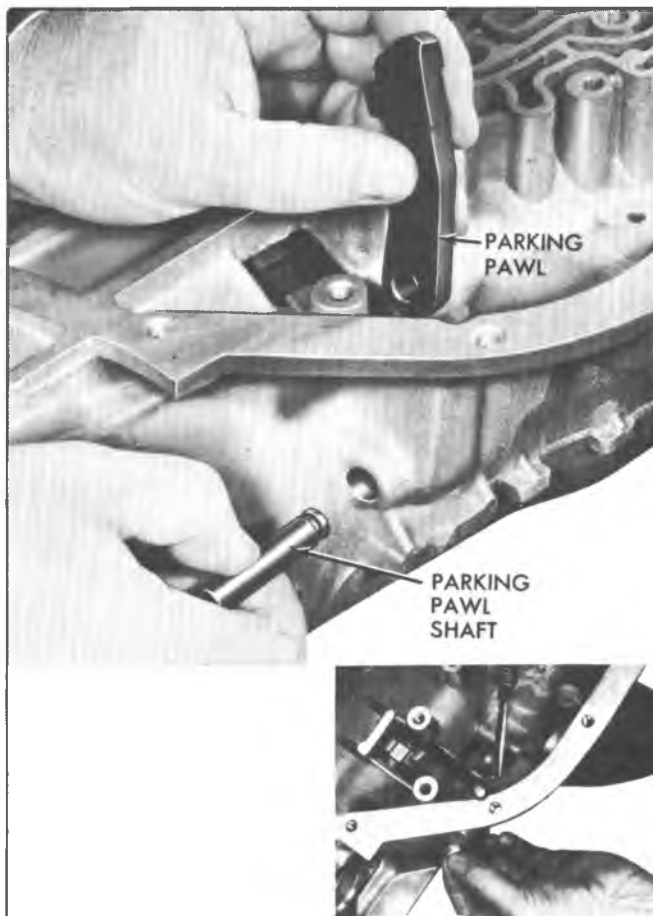

Fig. 22T--Removing Parking Pawl, Shaft and Cup Plug
8. Remove parking pawl shaft cup plug by inserting a screwdriver, between the parking pawl shaft and the case rib, and prying outwards (fig. 22T).
9. Remove parking pawl shaft and parking pawl (fig. 22T).